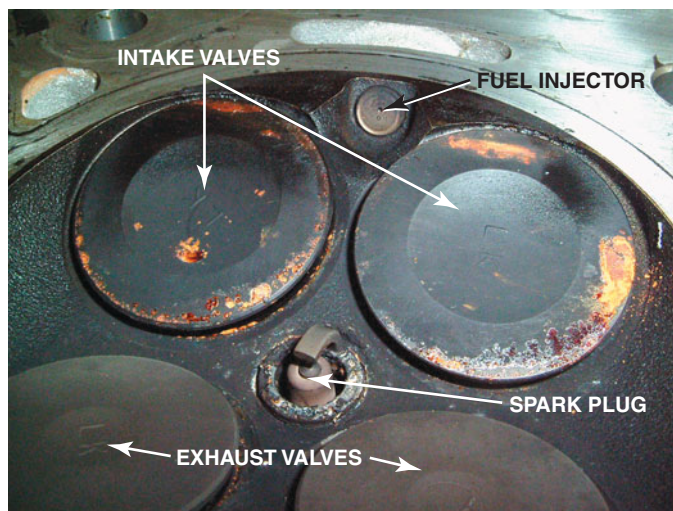

FIGURE 21-10 There may become a driveability issue because the gasoline direct-injection (GDI) injector is exposed to combustion carbon and fuel residue.
- **On the injector itself.** Because the injector tip is in the combustion chamber, fuel residue can accumulate on the injector, reducing its ability to provide the proper spray pattern and amount of fuel. Some injector designs are more likely to be affected by carbon than others. For example, if the injector uses small holes, these tend to become clogged more often than an injector that uses a single slit opening, where the fuel being sprayed out tends to blast away any carbon. ● **SEE FIGURE 21-10.**